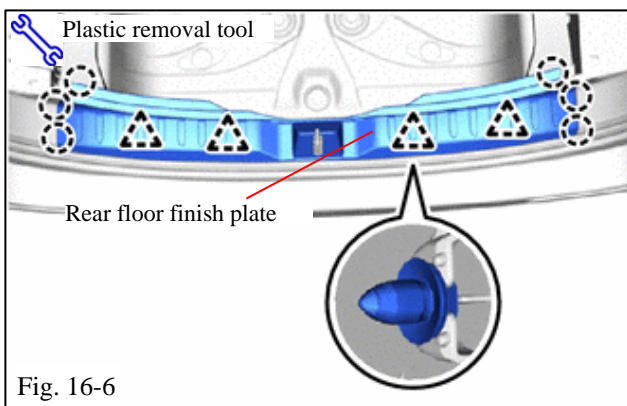

Fig. 16-6
- (h) Detach the claw and clip and remove the rear floor finish plate (Fig. 16-6).